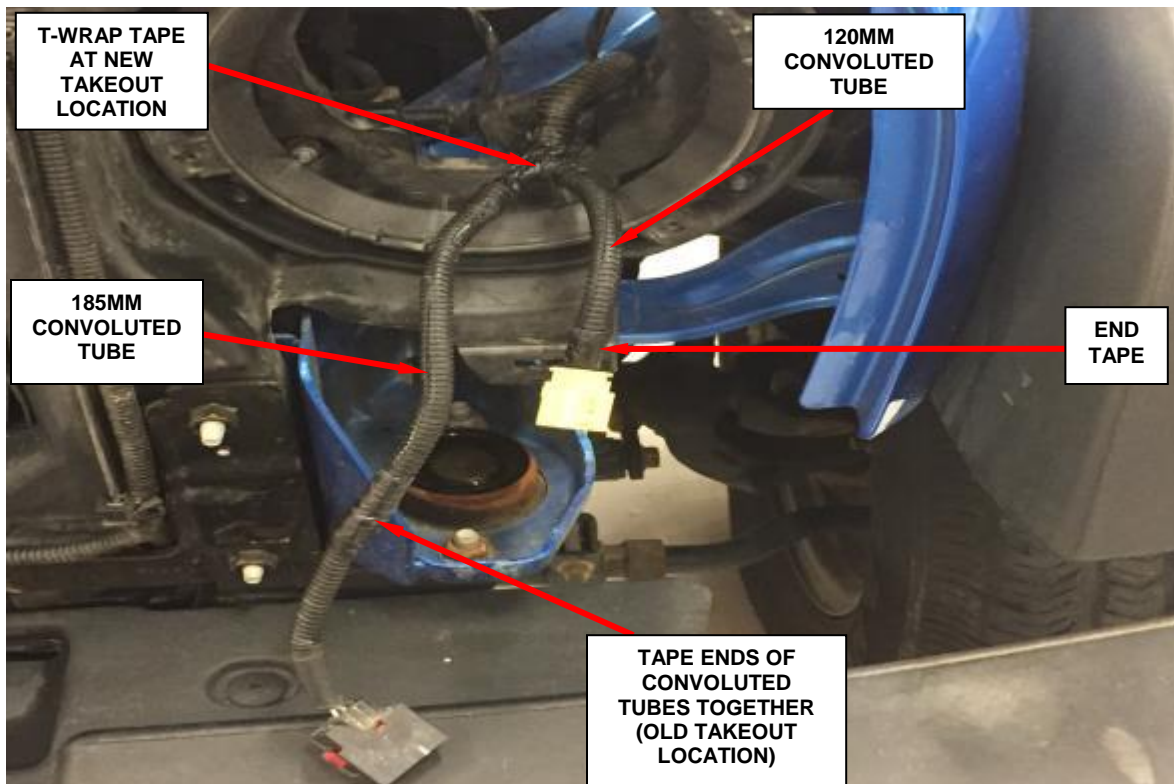

**Figure 16 – Relocate Impact Sensor Pigtail**
41. Relocate the left front impact sensor wiring pigtail by pulling it rearward to the next wire harness takeout as shown (Figure 16).
42. Tape the left front impact sensor wiring pigtail to the wire harness bundle and make the pigtail length **120mm** (4.75in) (Figure 16).
43. Fold the excess wire length to the wire harness bundle and tape securely (Figure 16).